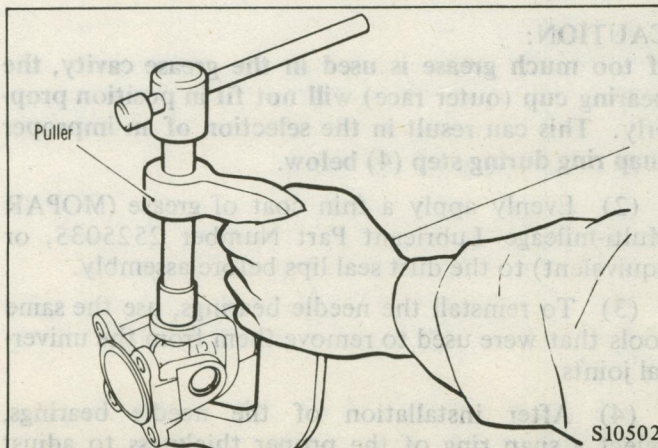

Fig. 2 Removing the Needle Bearing
- (1) Remove the snap ring using snap ring pliers.
- (2) Using a vise and suitable wrench sockets as shown in Figure 2, force out one needle bearing from the propeller shaft flange yoke.
- (3) Remove the other needle bearing in the same manner as described above.